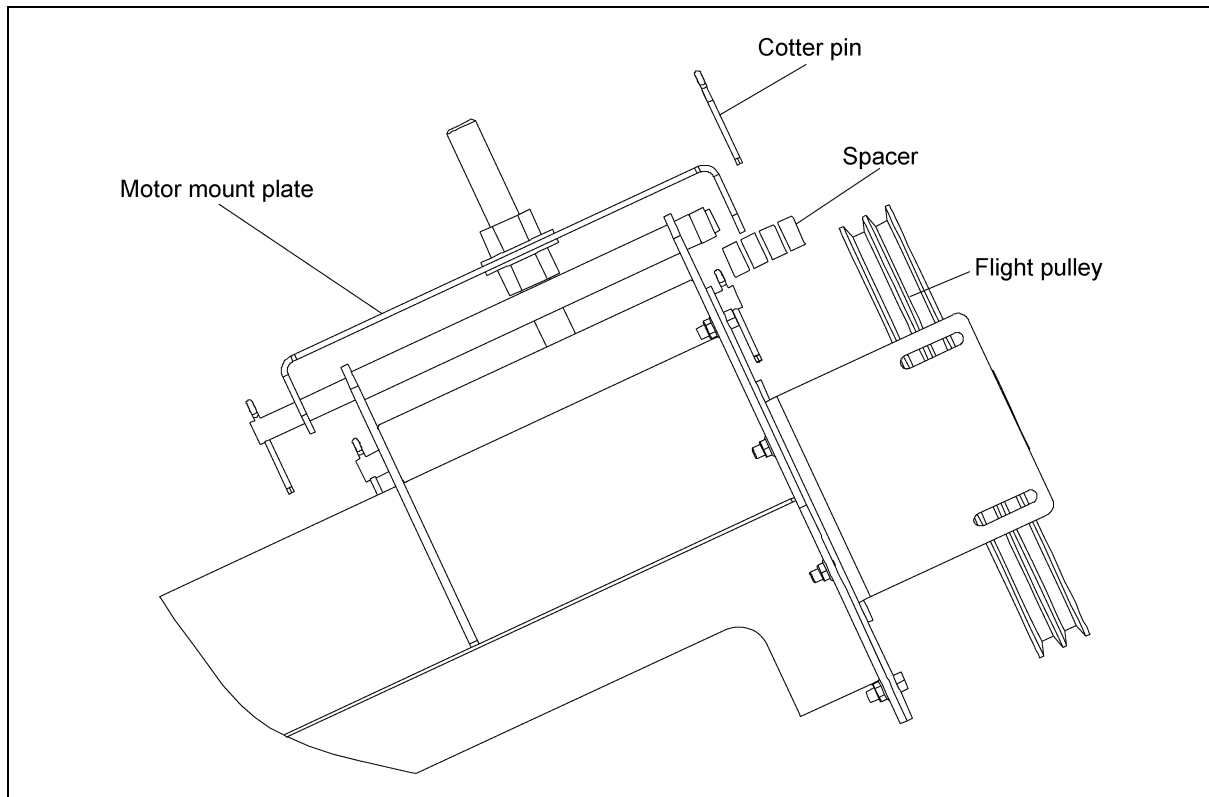

Figure 4J
2. Install pulley onto motor shaft making sure that it is aligned with the flight pulley. It may be necessary to move spacers to gain shaft alignment. *(See Figure 4J.)*